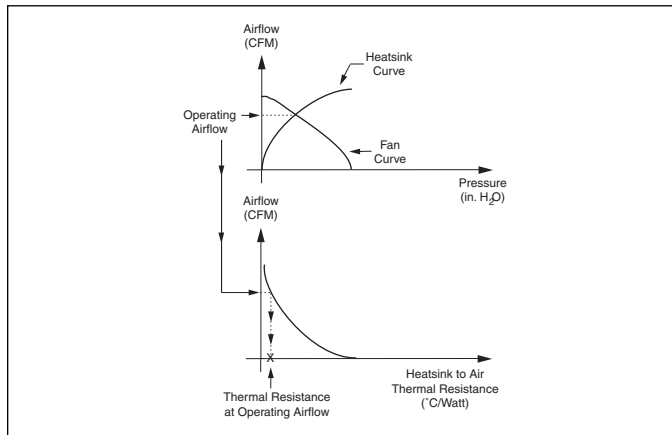

Figure 20–7 — Airflow vs. resistance
2. Selection of a heat sink / fan combination requires that forced convection data for both the heat sink and fan be available. Forced convection characteristics for heat sinks define both heat sink-to-air thermal resistance and pressure drop through the heat sink as a function of airflow. Fan characteristics define airflow as a function of pressure drop. The intersection point of the airflow versus pressure curves for the fan and heat sink will define the operating airflow through the heat sink. (Figure 20–7) The heat sink-to-air thermal resistance for this airflow may be read directly off the airflow versus resistance curve for the heat sink.